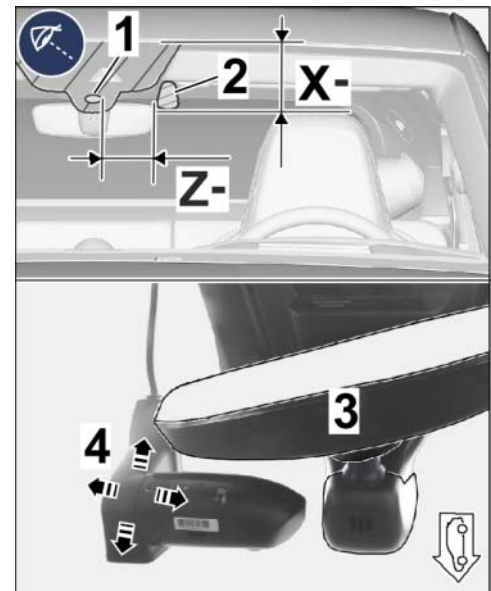

Figure 7
2.1.4 Position front camera with retainer plate (⇒ *Figure 7-4-*) in the vehicle at the marking on the windshield. ⇒ *Figure 7-Arrows-*